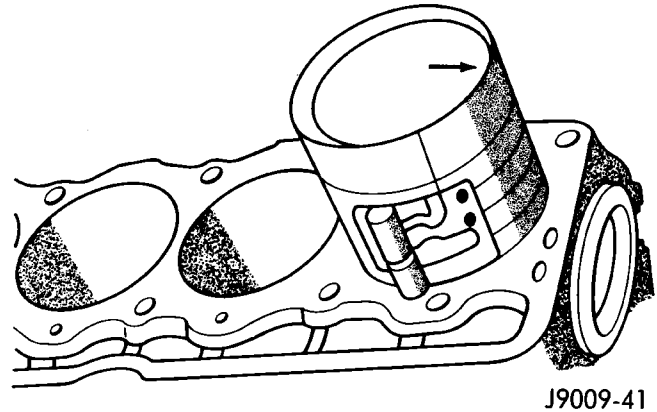

Fig. 59 Rod and Piston Assembly Installation
(4) Use a piston ring compressor to install the connecting rod and piston assemblies through the top of the cylinder bores (Fig. 59).
(5) Ensure the arrow on the piston top points to the front of the engine (Fig. 59).
(6) Raise the vehicle.
(7) Each bearing insert is fitted to its respective journal to obtain the specified clearance between the bearing and the journal. In production, the select fit